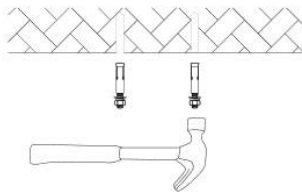

Figure 2-1
2. Use a screw driver to position the expansion screws into the holes. (Figure 2-1)